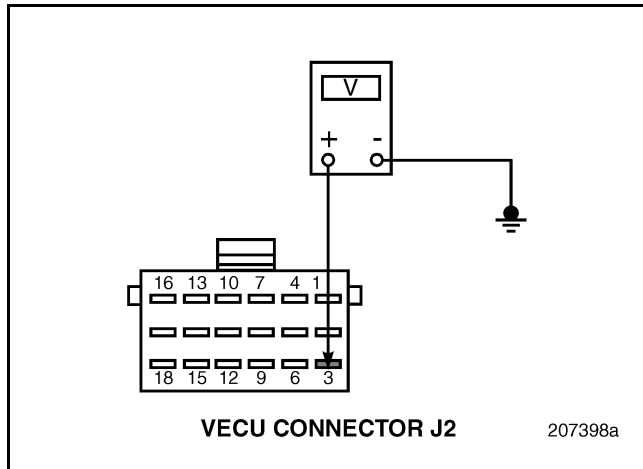

Figure 247
5. Measure the voltage between Vehicle Electronic Control Unit (VECU) harness connector J2 pin 3 and a good ground (see Figure 247).